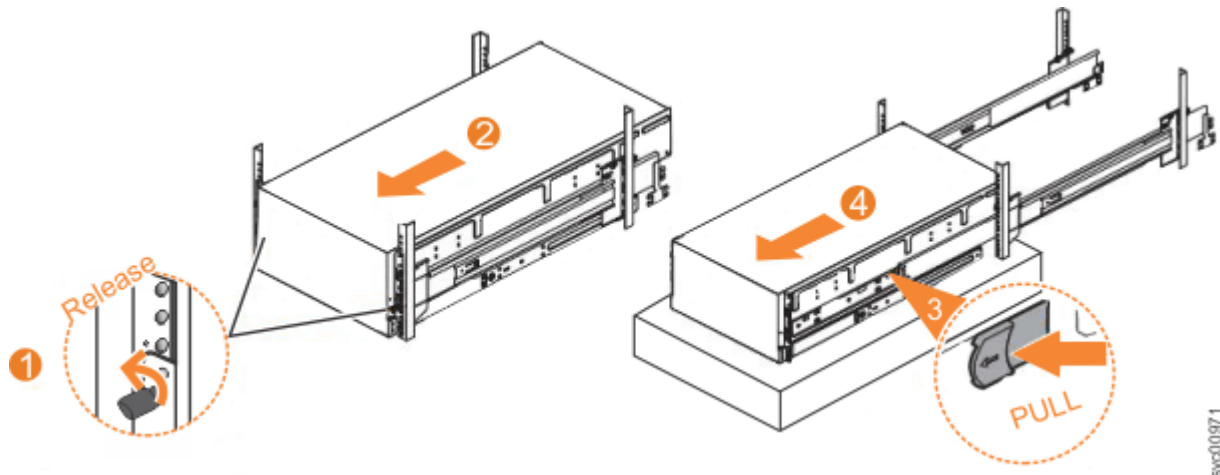

Figure 107. Removing the 5U expansion enclosure from the rack
1. Loosen the locking thumb screws (1) on the front of the enclosure, as shown in Figure 107 on page 91.
2. Carefully slide the enclosure forward out of the rack (2), as shown in Figure 107 on page 91.
3. Locate the left and right blue release tabs near the front of the enclosure. Pull both release tabs forward to unlock the drawer mechanism (3) in Figure 107 on page 91.
4. Slide the enclosure and inner rail member out of the rack (4) in Figure 107 on page 91.